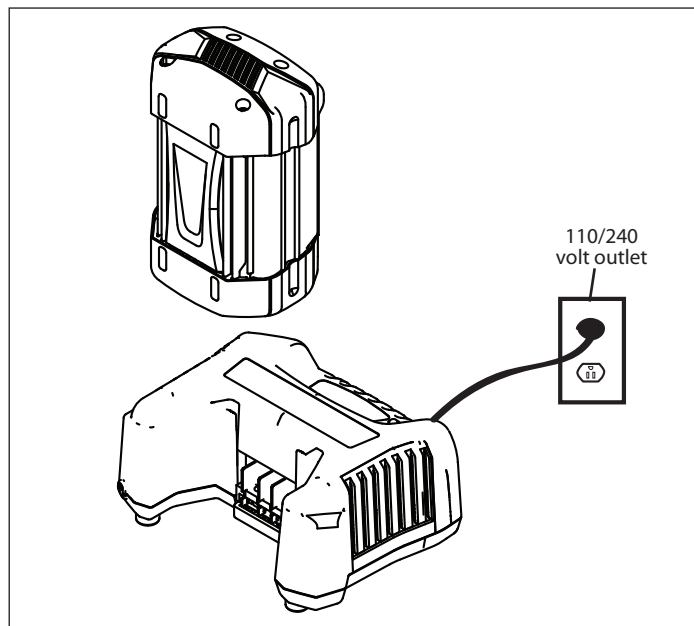

Figure 2
1. Connect the charger to standard 110 or 240-volt outlet; a red light should appear on the charger. Always connect charger to standard 110 or 240-volt wall outlet before inserting battery. **SEE FIGURE 2.**